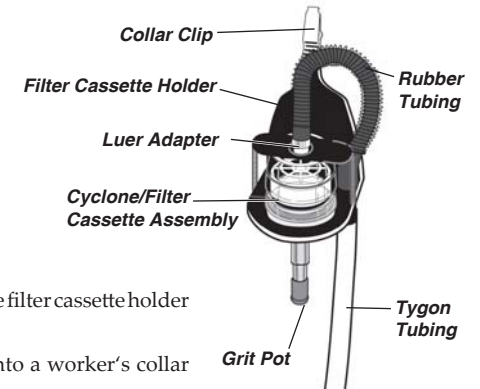

Figure 3.
4. Insert cyclone/cassette assembly through large opening of filter cassette holder (*see Figure 3*). Ensure assembly is seated firmly in holder by inserting the cyclone's side pin (small round nodule on rim of cyclone) into the notch in the filter cassette holder.